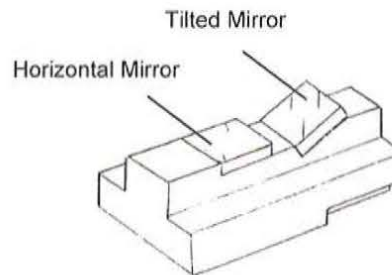

Figure 4 • Alignment Fixture
- Slide the alignment fixture (Figure 4) into the Praying Mantis™, with the horizontal mirror going in first. In this orientation, the tilted mirror is in the sampling position.
- Slide the alignment fixture (Figure 4) into the Praying Mantis™, with the tilted mirror going in first. In this orientation, the horizontal mirror is in the sampling position.